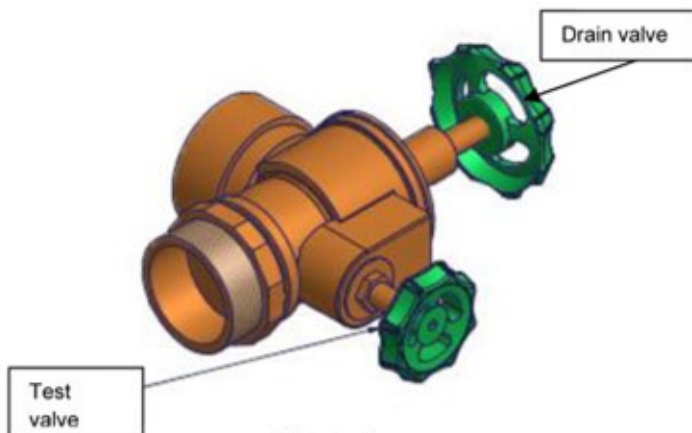

Figure 1
To check that the supply line allows the unobstructed supply of water, close the alarm control valve and slowly open the drain valve (Fig. 1). Once the test is complete, close the drain valve and open the alarm control valve. The alarm control valve must be supervised and secured according to the respective regulations.
a. Open the drain valve (Fig. 1) to remove all loose particles from the valve seat. Close the drain valve and check whether the water flow has stopped.
- c. Following repair work, close the drain valve (Fig. 1) and slowly open the main control valve and monitor the system accordingly.